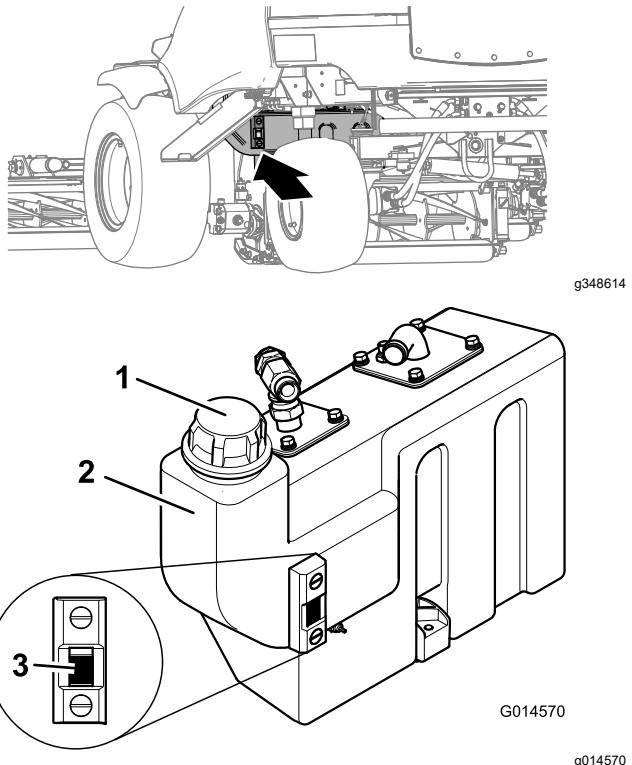

Figure 84
4. Clean the area around the filler neck and the cap of the hydraulic tank (Figure 84).